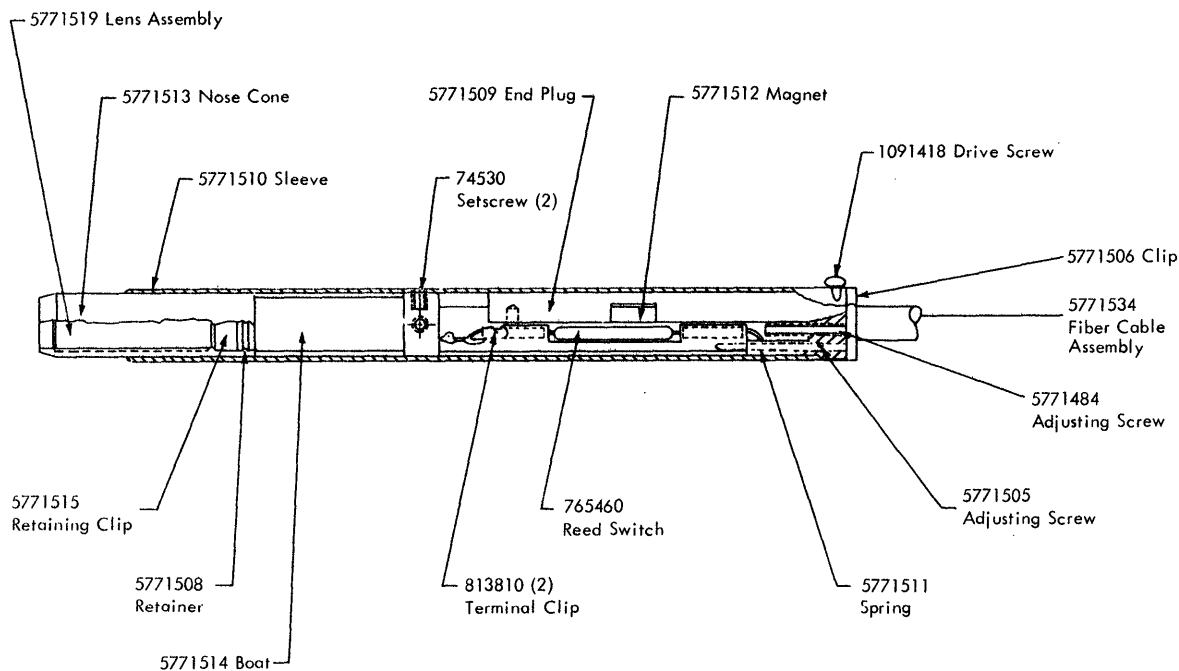

Figure 4-9. Optic Light Pen Assembly
1. Remove drive screw (PN 1091418) from pen assembly (Figure 4-9) and slide pen barrel (sleeve PN 5771510) off.